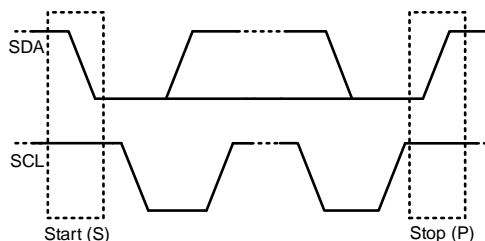

Figure 6: Start and Stop Conditions
All transactions begin with a start (S) condition and are terminated by a stop (P) condition. The start and stop conditions are always generated by the master. A high to low transition on the SDA line while SCL is high defines a start condition. A low to high transition on the SDA line when the SCL is high defines a stop condition (see Figure 6).